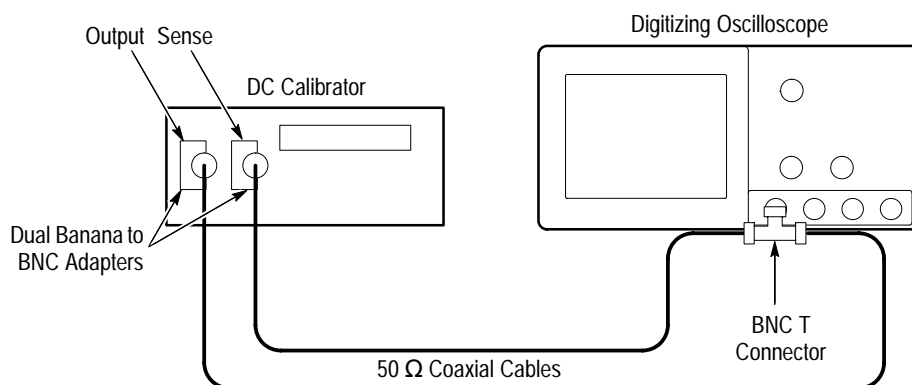

Figure 4–5: Initial Test Hookup
- Connect the output of a DC calibration generator through a dual-banana connector followed by a 50  $\Omega$  precision coaxial cable to one side of a BNC T connector (see Figure 4–5).